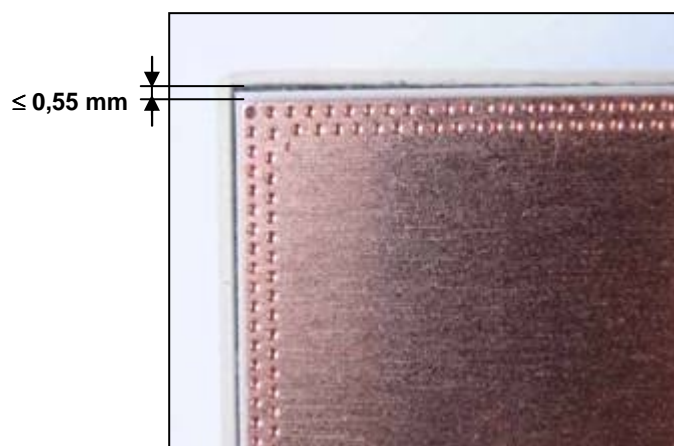

Fig. 1.3 Dimples in MiniSKiiP bottom surface
- ◆ Due to the manufacturing process, the position of substrate in the plastic housing varies (Fig. 1.3). The maximum tolerable gap between housing and substrate is 0.55 mm.